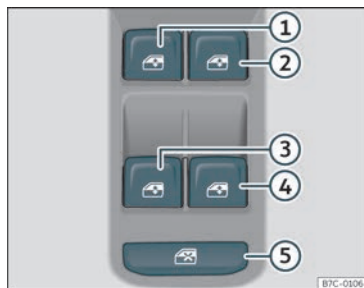

Fig. 91 Detail of the driver's door: window controls.
The safety control >>> **Fig. 91** ⑤ on the driver door can be used to disable the electric window buttons on the rear doors.